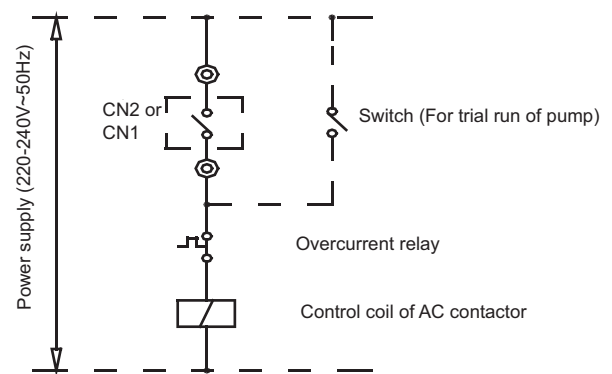

Fig. 5-3
Step 10. Connection of control wires of pump: the control wires of AC contactor of pump must pass the connection terminals CN1 or CN2 of the main unit, as shown in Fig. 5-3.